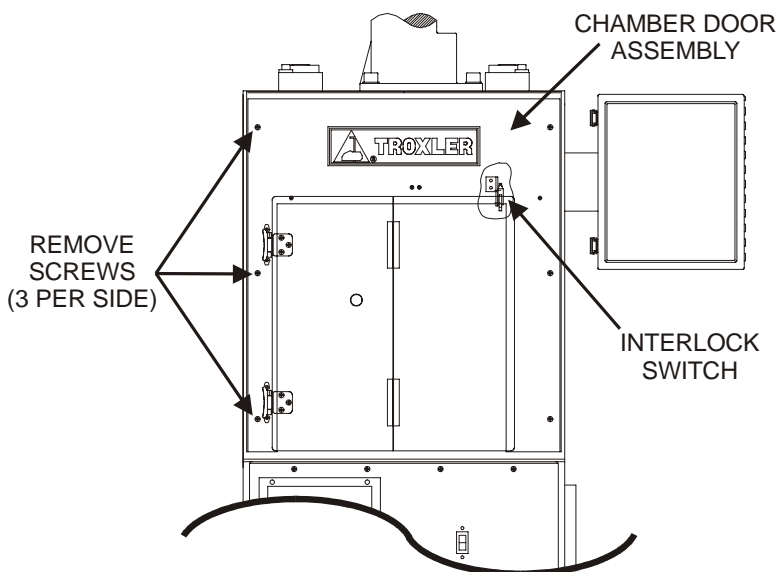

Figure 2. Removing Compactor Chamber Door Assembly
1. Using a Phillips screwdriver, remove the six screws that secure the chamber door assembly to the right and left frame members of the compactor (see Figure 2).